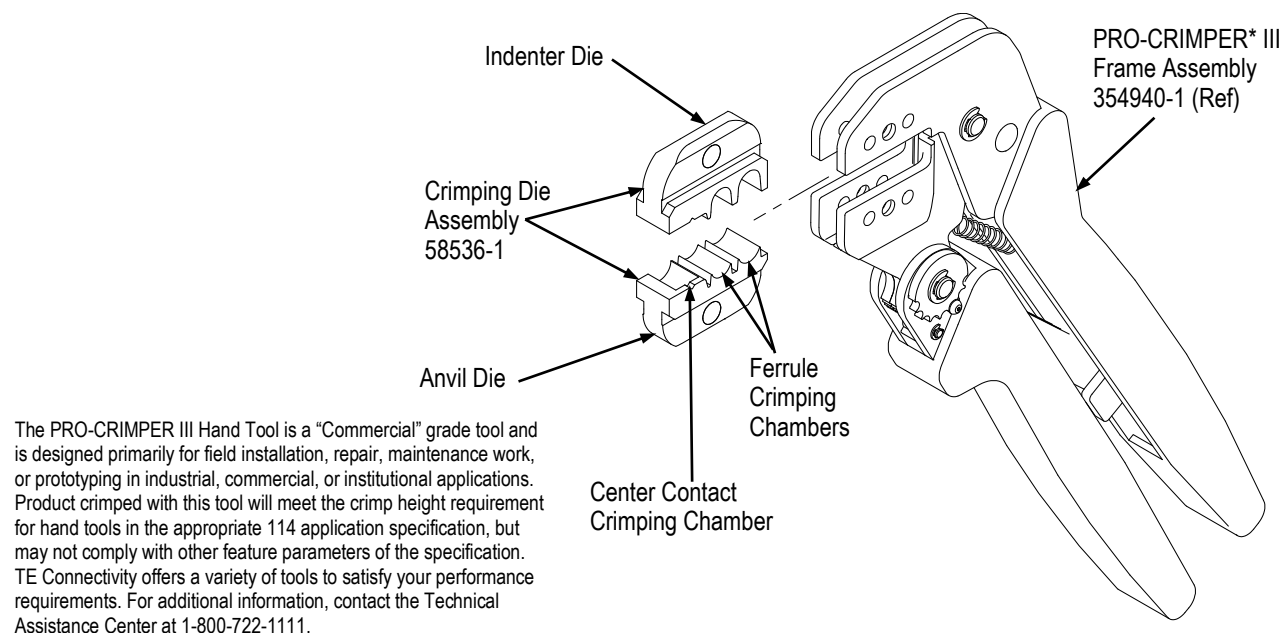

Figure 1
The die assembly consists of an indenter die and an anvil die, which when closed form three crimping chambers. The two larger crimping chambers crimp the ferrule of the connector onto the coaxial cable, and the smaller crimping chamber crimps the center contact onto the center conductor of the coaxial cable. Each die is held in the tool jaws by a single screw. See Figure 1.
3. DIE INSTALLATION (Figure 1)